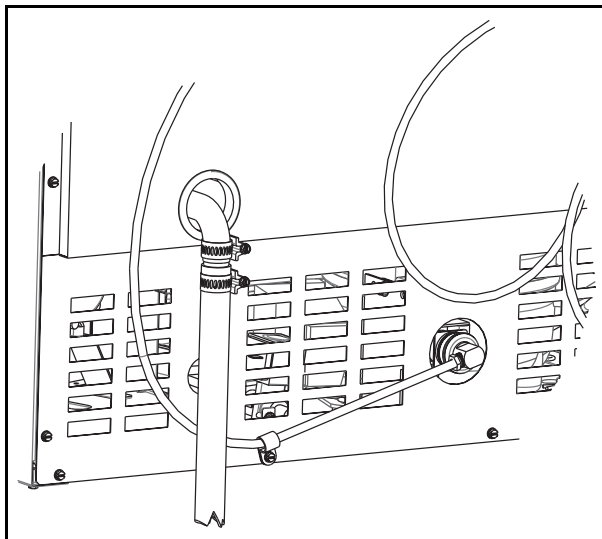

Figure 11
4. Slide two hose clamps onto the drain connection on the rear of the appliance. Insert the barbed fitting half-way into this connection. On the other end of the barbed fitting attach the 5/8" braided tubing. Slide a clamp onto each side of the barbed fitting as shown (**Figures 11 and 12**).
6. Connect the water supply fitting by screwing the brass garden hose fitting to the water valve in the rear of the unit. Tighten this fitting with a pliers. Do not use Teflon tape or joint compound on the fitting. The rubber washer provides an adequate seal. Other materials could cause blockage of the valve. The copper water line should now be clamped to the rear of the unit to prevent rotation when sliding in. Remove the clamp from the unit, slide the tube into it and reattach using the 1/4" nut driver as shown (**Figures 11 and 12**).